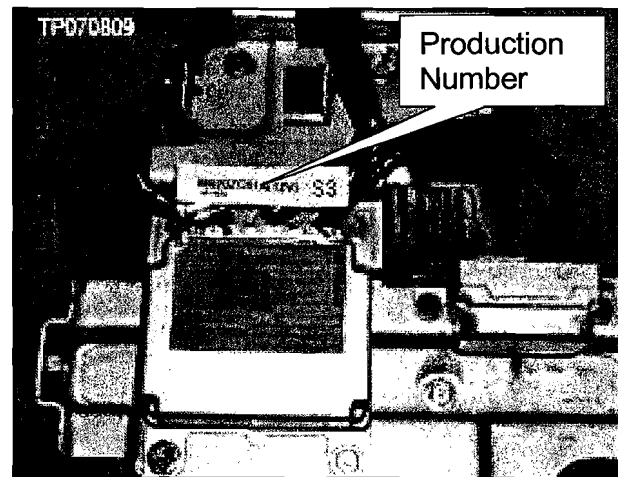

Figure 2
2. Once the center console is removed, locate the air bag diagnosis sensor unit Production Number (refer to Figure 2).